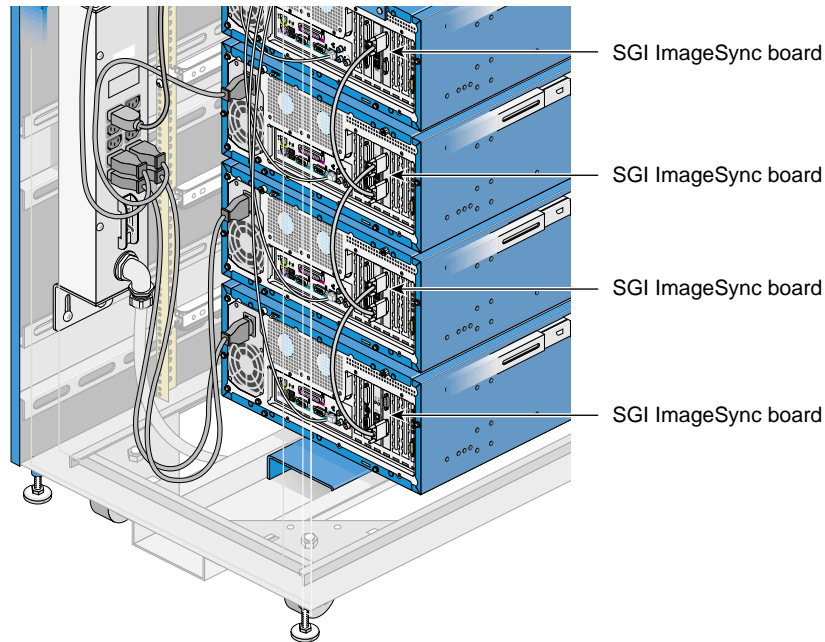

Figure 6-1 External SGI ImageSync Cable, SGI Graphics Cluster Series 12 System
1. At the back of the rack, check that the SGI ImageSync cable on the master node at the bottom of the rack is plugged into the **OUT** port on the master node SGI ImageSync card; see Figure 6-1.
2. Check that this cable is plugged into the **IN** port on the SGI ImageSync card on the next node (channel0); see Figure 6-1.